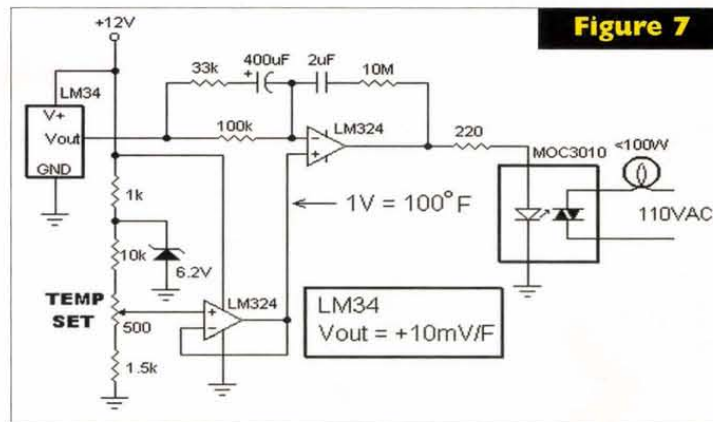

Figure 7
A. Many years ago, I remember buying one of those inexpensive quail egg incubator kits. It was a small plastic dome with a night light for heat, no humidifier or temperature controller. Needless to say, none of the eggs hatched so I know the need for precise temperature control. I also know that temperature controllers can be very expensive. Fortunately, the price of IC temperature sensors has dropped down to the level of thermistors, which simplifies the design considerably — as shown in Figure 7.